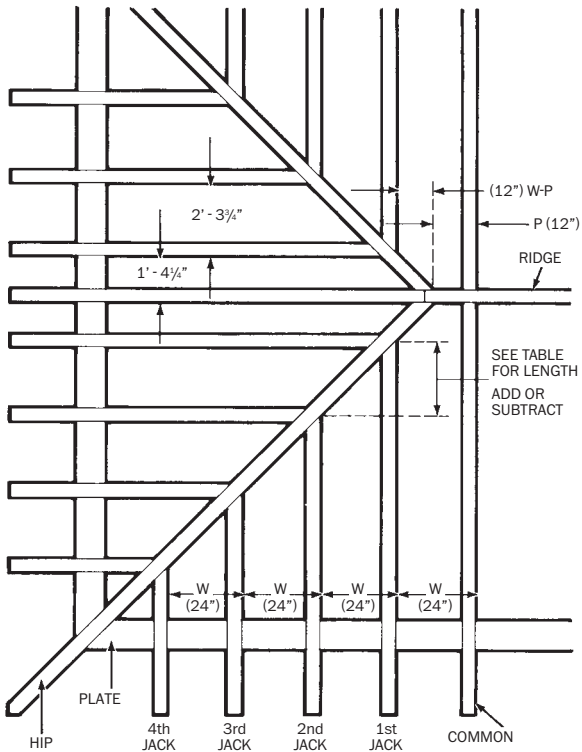

FIG. 14 Top View of Hip Jack Rafter Spacing.
JACK RAFTER LENGTH: The Jack Rafter Tables are different than those for the other rafters. The table lists, in the first column, the varying center-to-center spacing of the jack rafters. Then in the second column is the difference in length from one jack to the next (see Figures 14 and 15). This difference in length is to be added to or subtracted from the rafter length as you progress from jack to jack (using the spacing selected). In our example of a 8" rise, and lets assume a 24" spacing; we have a 2' 4-7/8" difference in length. Therefore, to obtain the length of the first or longest jack rafter, measure the distance from the edge distance from the edge
of the last common rafter to the intersection of the hip and ridge, or the valley and top plate (for a valley jack). This measurement is called (P) in Figures 14 and 15. Now subtract the measurement (P) from the spacing you are using (W). The result ($W - P$) is the distance from the intersection of the hip and ridge to the first hip jack or the plate corner to the first valley jack. Look in the table for this distance and find the length to deduct from the common rafter length. In our example again, let us take a measurement of 12" from the common rafter far side edge to where the hip intersects the ridge ($W - P = 24 - 12 = 12$). Therefore:
TAIL OR EAVE LENGTH: The tail or eave length for all hip jack rafters is the same as for common rafters. If desired, use a common rafter for a pattern. Cripple and valley jacks have no tail (See Figures 14 and 15).